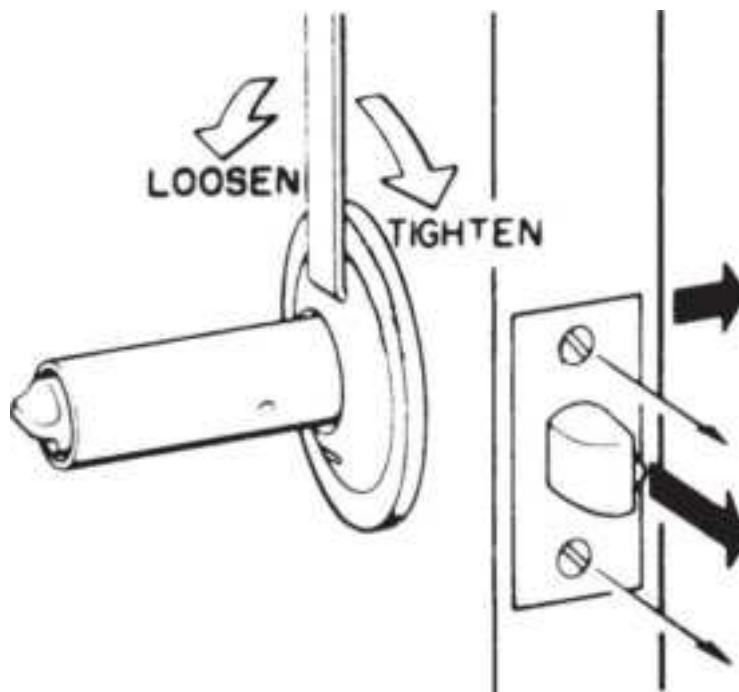

**Figure 13.16** Tightening rose.
3. Place the wrench into the slot in the rose liner and rotate it clockwise until it's tight on the door. If the lockset is extremely loose, tighten the outside rose and inside liner *equally* (Fig. 13.16 ).